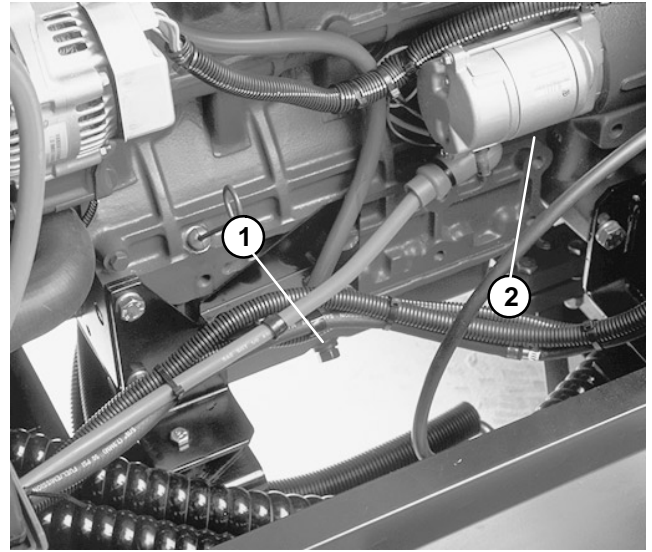

Figure 12
1. Remove drain plug and let oil flow into drain pan. When oil stops, install drain plug (Fig. 12).